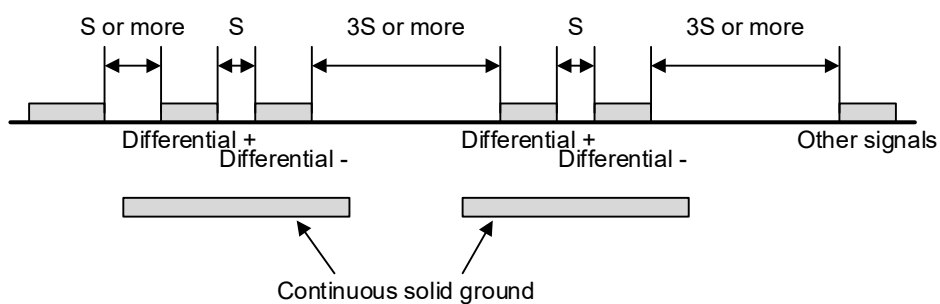
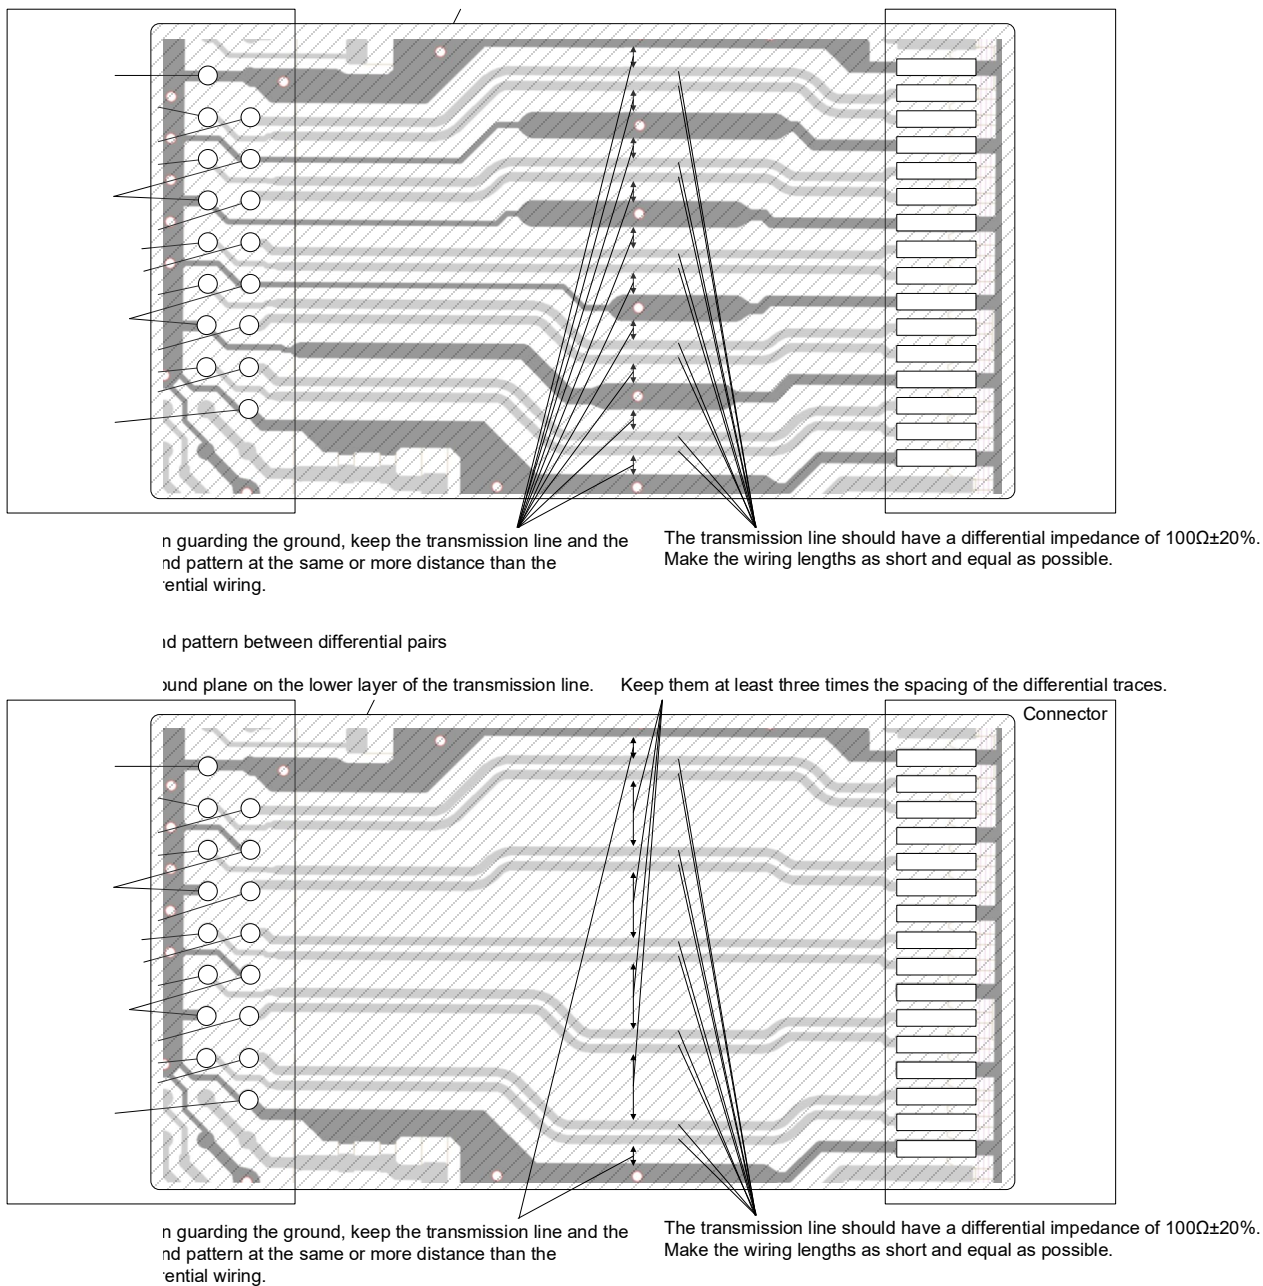

Figure 2.4 Examples of spacing between transmission lines and adjacent patterns
Figure 2.5 Transmission line pattern design example
- Adequate spacing is required between transmission lines and adjacent ground patterns and signal lines. **Table 2.1** shows recommended spacing values between transmission lines and adjacent patterns. **Figure 2.4** shows an example of the spacing between a transmission line and an adjacent pattern, and **Figure 2.5** shows an example of transmission line pattern design.